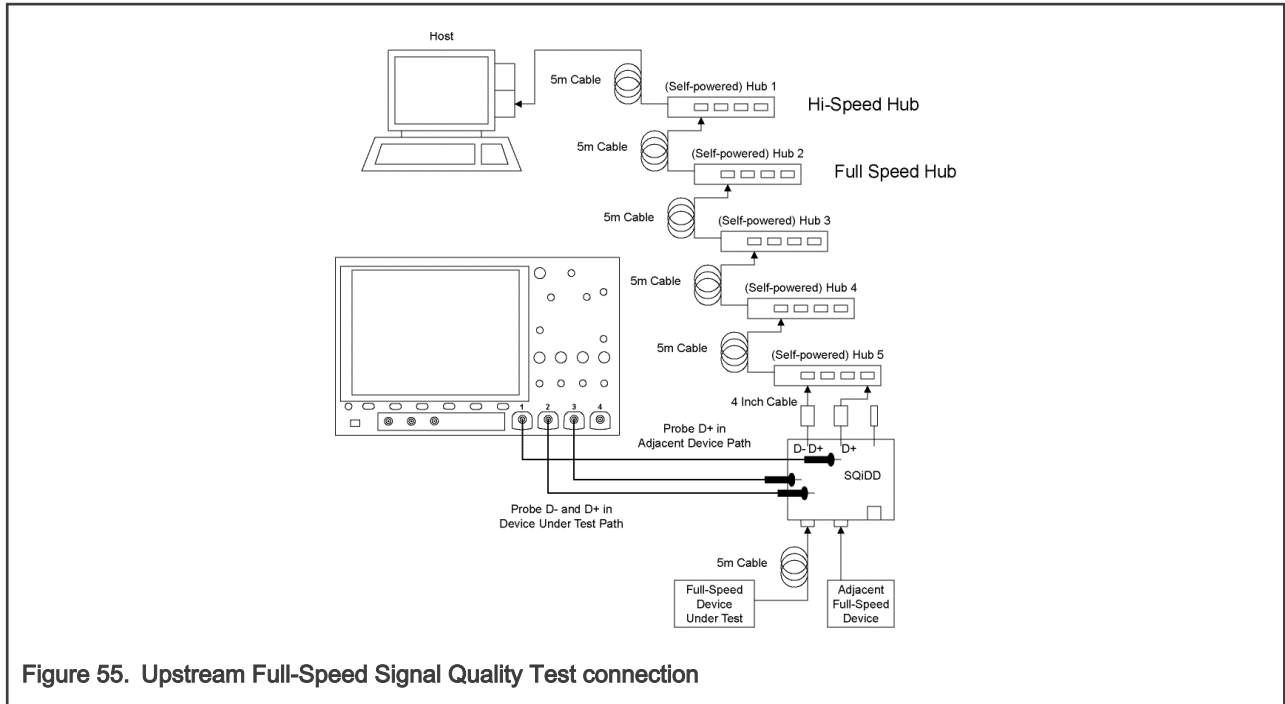

Figure 55. Upstream Full-Speed Signal Quality Test connection
2. Connect the equipment and test fixture as shown in Figure 55. Since the test is the signal quality of the Device's Upstream port, the upstream layer 5 hub has no effect on the signal integrity. Therefore, if you do not have enough hubs on hand during the pre-test, to force the Device to run at full speed, connect only one full speed hub. The obtained eye diagram is also credible.